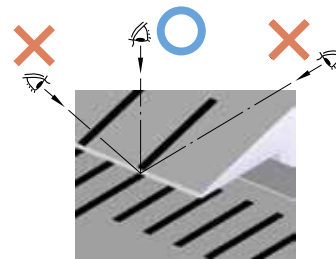

Fig. 6
2. Read the scale graduations from directly above to avoid parallax error. (**Fig. 6**)